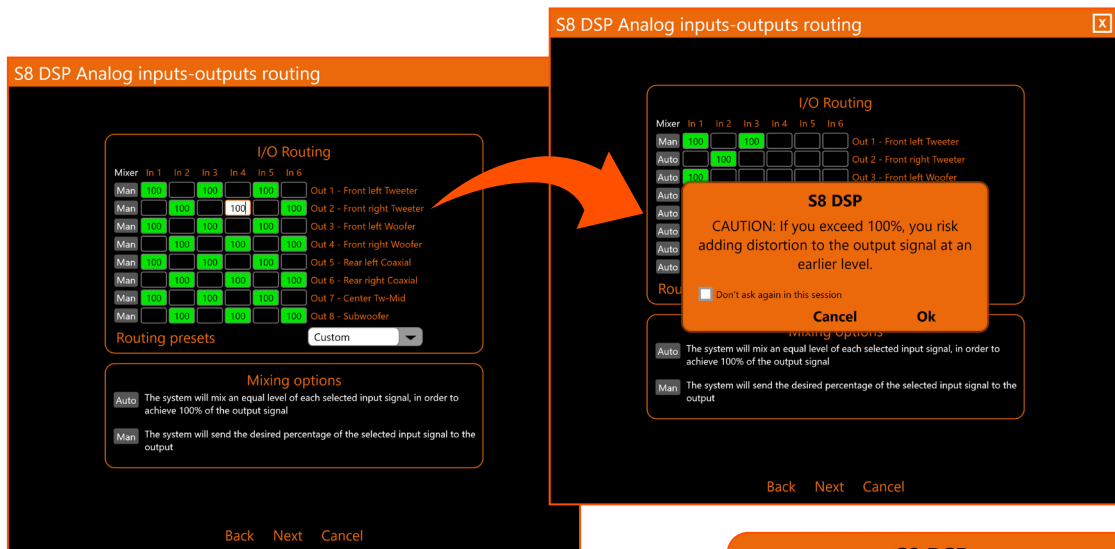

Fig. 2
**E.g.** If only one input is associated with an output, the software will set it to 100% (fig 1), while if several inputs are associated with a mono output (Eg. Subwoofer or Center), the software will set them in equal percentage (50% / 50%) so that their sum is 100%. (fig 2).